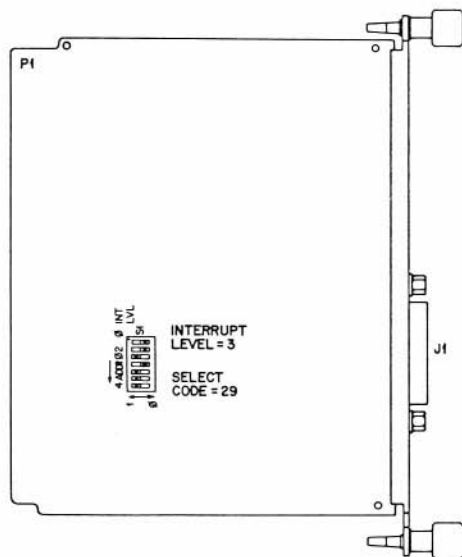

Figure 5-13. Multiprogrammer Interface Switches
- a. Find the set of select code and interrupt level switches by referring to Figure 5-13. The lower-most five switches determine the select code.
- a. Find the set of select code and interrupt level switches by referring to Figure 5-13. The two top-most switches in this group determine the interrupt level.